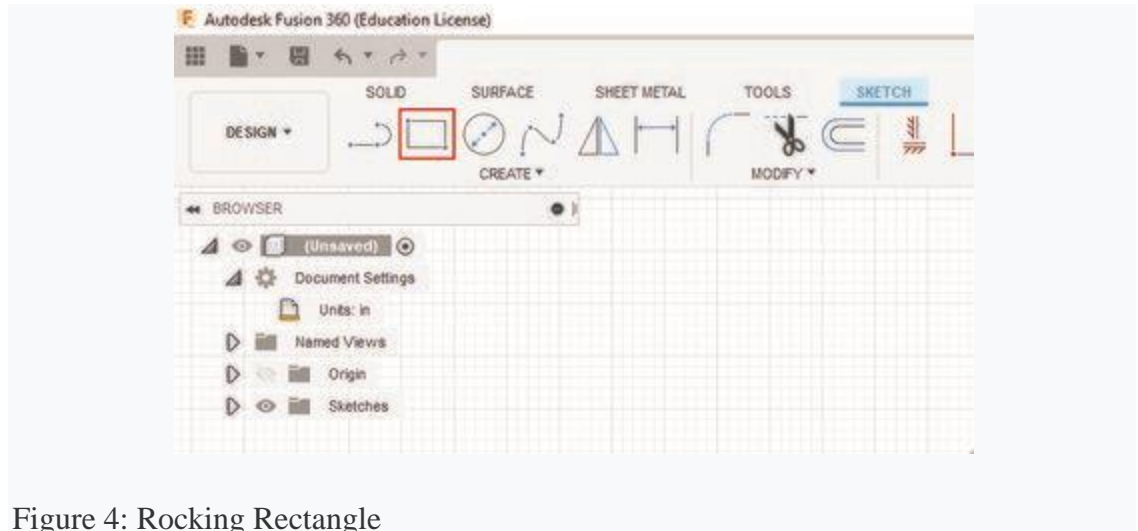

Figure 4: Rocking Rectangle
- d. Select the rectangle tool from the "Sketch" section of the toolbar. (Figure 4)